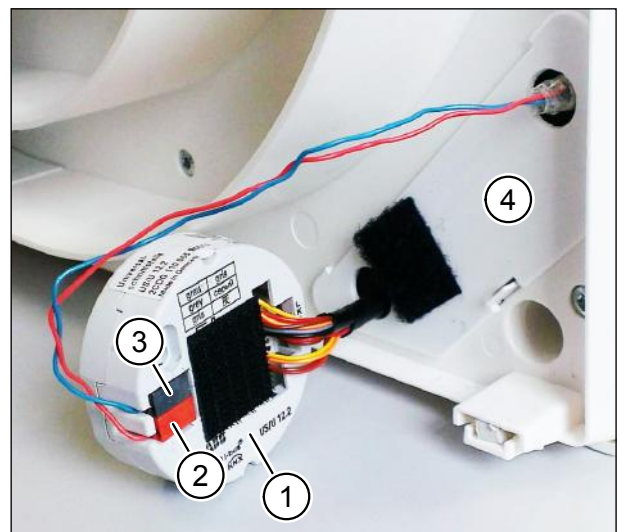

Fig. 18: Connecting the KNX bus cable to the KNX interface
- ▶ Detach the KNX interface (item 1 in Fig. 18) from the network connection cover (item 4 in Fig. 18).
- ▶ Connect the “+” bus wire to the red terminal (item 2 in Fig. 18).
- ▶ Connect the “-” bus wire to the grey terminal (item 3 in Fig. 18).
The board with the terminal blocks is located behind the network connection cover (item 4 in Fig. 18).
- To program the KNX interface, press the programming button (see item 4 in Fig. 14 on page 21). First detach the KNX interface from the network connection cover (see item 4 in Fig. 18 on page 25).
- ▶ Fix the KNX interface to the Velcro dot on the network connection cover once more (see Fig. 18 on page 25).